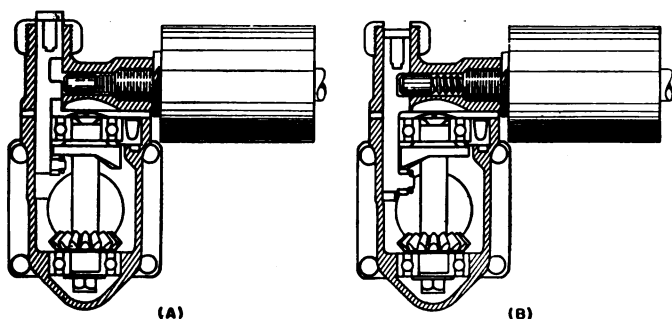

Figure 35.—Solenoid secured to impulse generator housing.
In figure 35 (A), the solenoid is in the retracted, or operating, position. Notice that there must be a small clearance between the end of the plunger and the side of the cam follower to permit the cam follower to operate freely when the plunger is disengaged. In (B), when the plunger is engaged, as much of the  $\frac{3}{16}$ " throw as possible